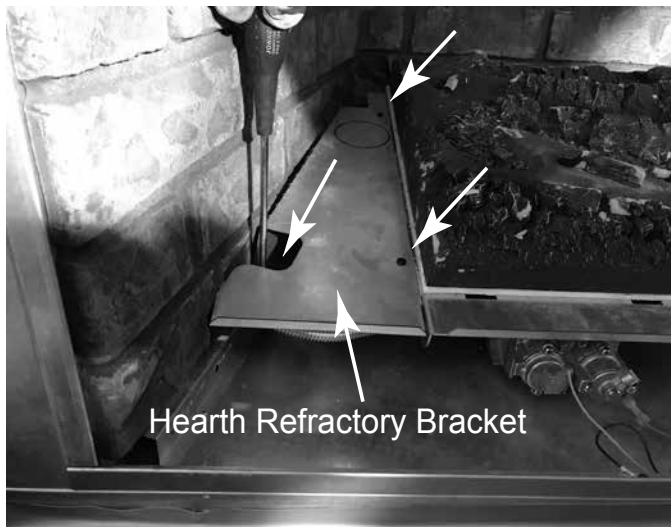

Figure 11.7
- Install Left & Right Side Hearth Refractory Brackets, as shown, and secure with (3) screws each. See Figure 11.7.